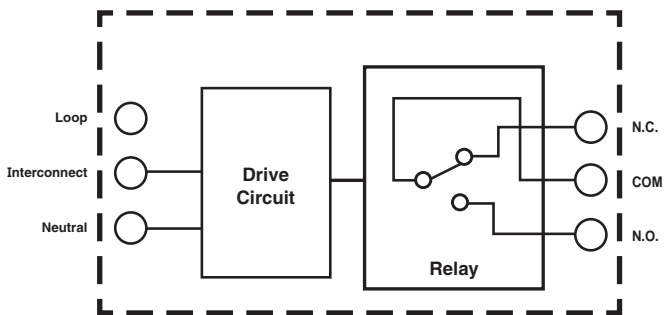

Figure 1: 756 Internal Block Diagram
- Figure 1 illustrates the internal block diagram for the 756 and highlights the changeover switch contact arrangement.